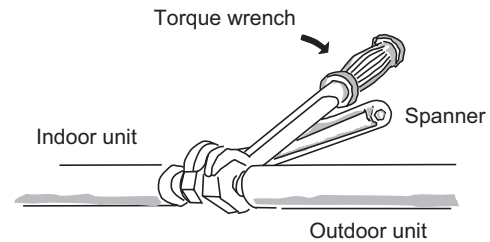

Fig. 2-20
- (1) Tightly connect the indoor-side refrigerant tubing extended from the wall with the outdoor-side tubing.
- (2) To fasten the flare nuts, apply specified torque as at right:
- When removing the flare nuts from the tubing connections, or when tightening them after connecting the tubing, be sure to use 2 adjustable wrenches or spanners as shown. (Fig. 2-20)